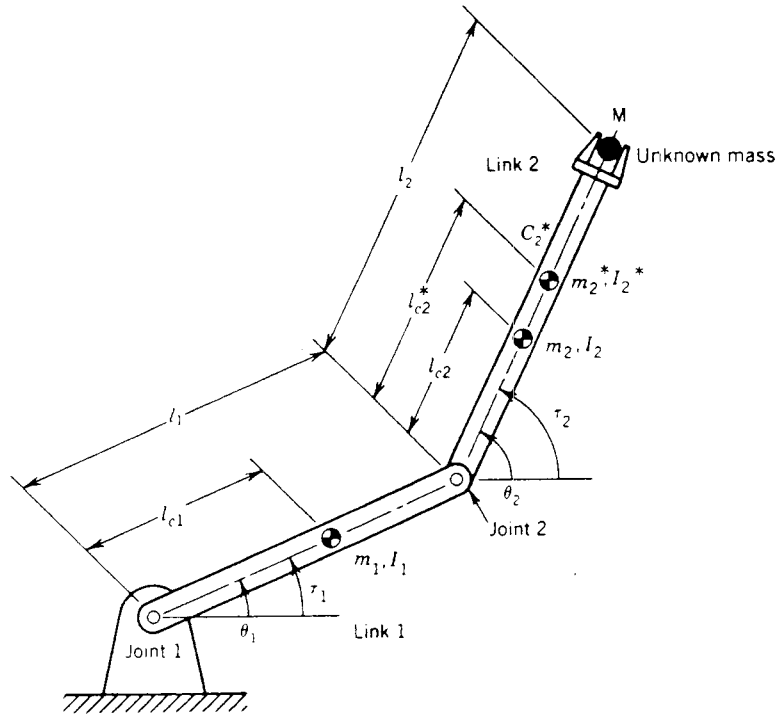

Fig. 3 A two degree of freedom manipulator
3. Consider the two degree of freedom manipulator shown in fig. 3 below. When the manipulator grasps an unknown mass particle M at the tip of link 2, the mass properties of link 2 change from known values of m_2, l_{c2}, I_2 to m_2^*, l_{c2}^*, I_2^* where $m_2^* = m_2 + M$. It is required to identify the unknown mass properties by experiments.